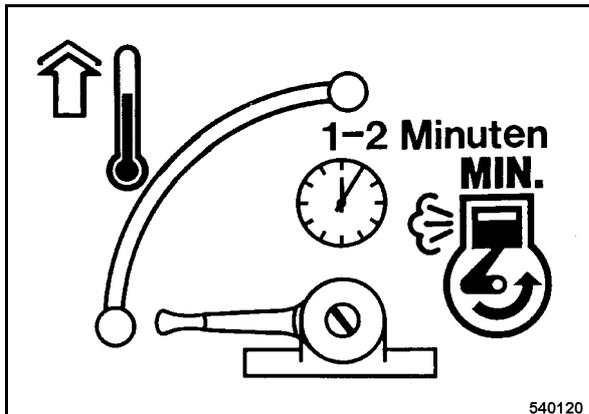

Fig. 18
- Set the throttle lever (Fig. 18) to "MIN" and let the engine run warm for 1 to 2 minutes.